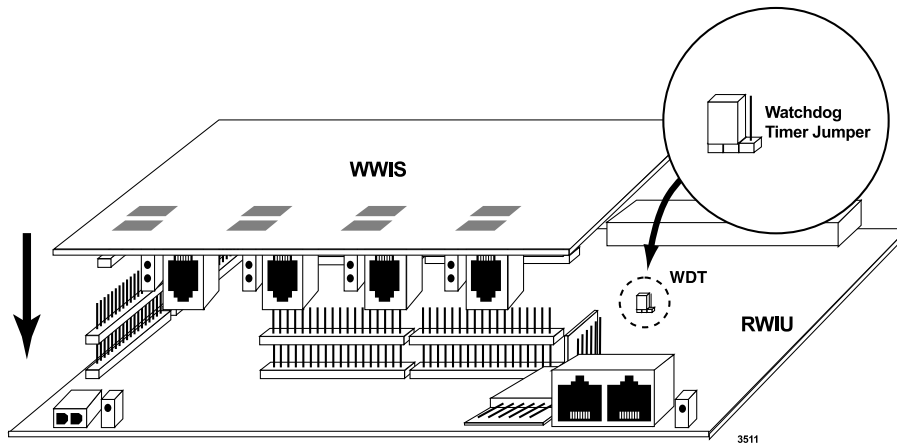

Figure 24 Alignment of the WWIS onto the RWIU
4. Verify that the Watch Dog Timer (WDT) is jumpered correctly as shown in Figure 24.
1. Carefully align the connectors of the WWIS (P9~P10 and P12~P17) to the terminals on the RWIU (J9~J10 and J12~J17) (shown in Figure 24).